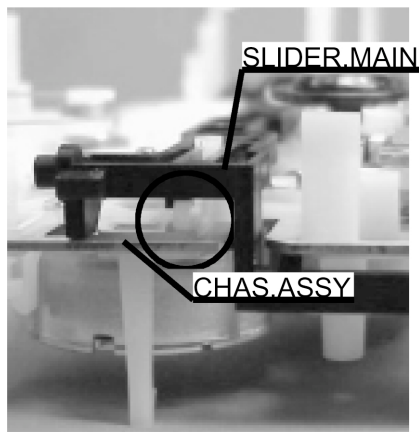

Fig.6-1
- 1) Disengage the detent (circled in Fig. 6-1) of the CHAS, ASSY.